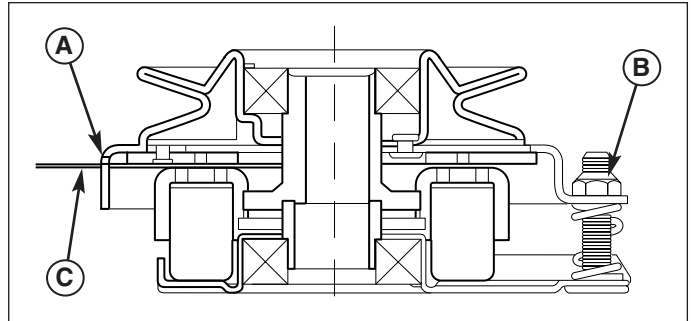

Figure 13. Adjust PTO Clutch
3. Insert a .016"-.018" (0,40-0,45mm) feeler gauge (C) through each window, positioning the gauge between the rotor face and the armature face as shown in Figure 13.